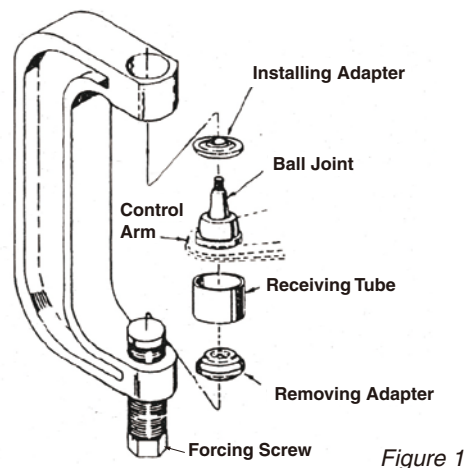

Figure 1
1. Assemble the ball joint press over the control arm as shown in Figure 1. Select the correct size receiving tube from sets like MBP1000, BPS400, MBJA20 and more, and position it under the vehicle ball joint as shown.